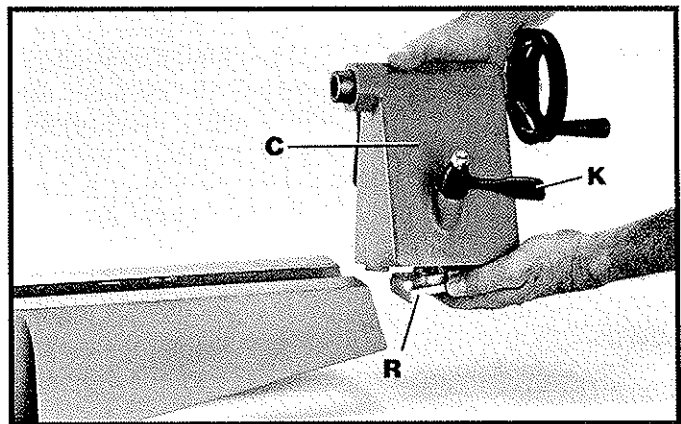

Fig. 10
9. Loosen tailstock locking lever (K) Fig. 10, and slide tailstock (C) onto right end of lathe bed as shown. **NOTE:** Make sure clamp (R) is in position underneath lathe bed.